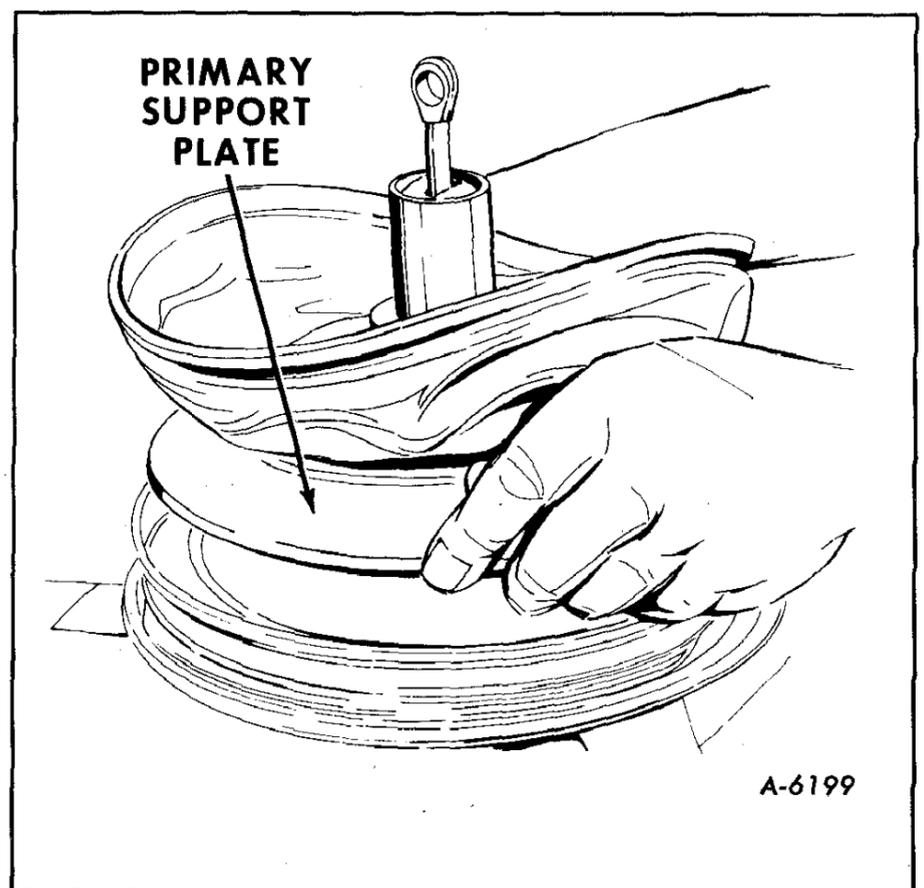

Figure 12—Locking or Unlocking Primary and Secondary Power Pistons
**NOTE:** It is possible that the primary support plate will unlock from the primary piston before the primary piston unscrews from the secondary piston. If this happens, continue to turn the primary support plate counterclockwise. Tabs (stops) on the primary support will temporarily lock the primary support plate to the primary power piston and permit continued counterclockwise rotation to unscrew the primary power piston from the secondary power piston. (figure 12).
29. Grip the edge of the primary support plate, press down, and start the threads on the secondary power piston into the threaded portion of the primary power piston by rotating in clockwise direction (figure 12).